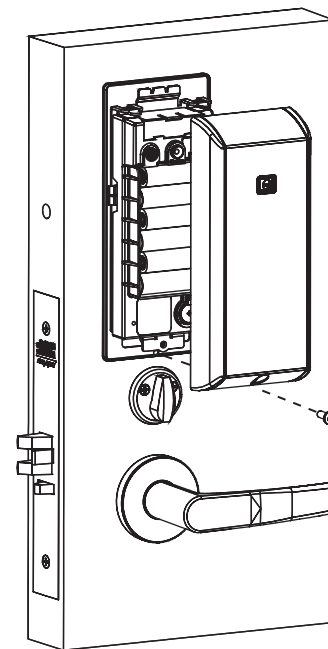

Fig. 19
- c. Fully secure cover by tightening the security screw at bottom of cover (Fig. 19), utilizing a security allen wrench.